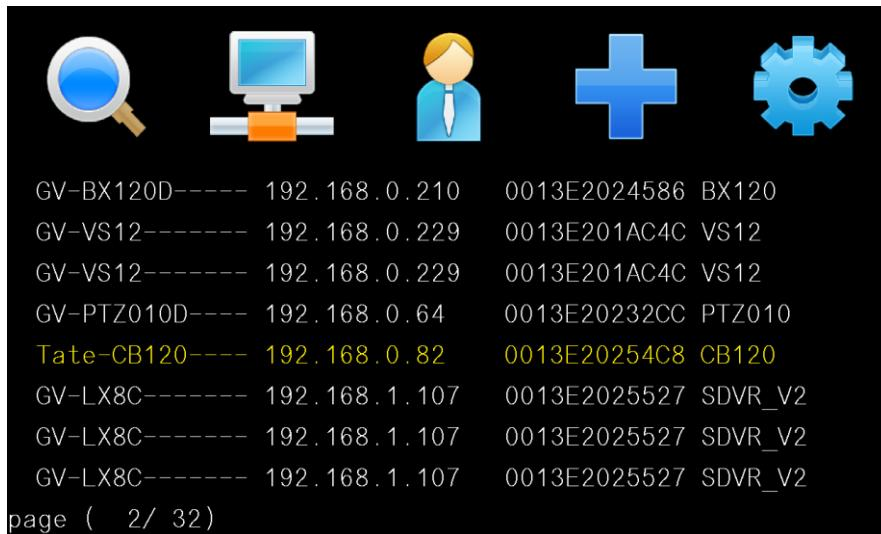

Figure 2-9
2. To search for IP devices, select the  icon and press **OK**. The devices under the same LAN with the GV-IP Decoder Box appear on the Device List (Figure 2-9).